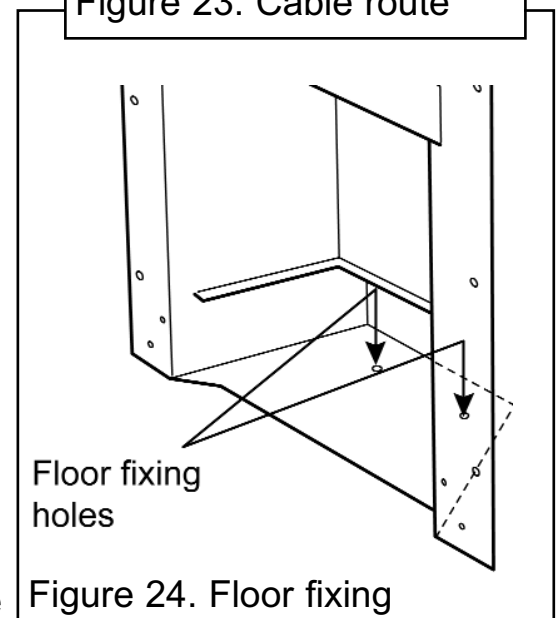

Figure 24. Floor fixing
8. Drill a hole into the fireplace floor through each of the two holes in the base of the convection box using a suitably sized masonry drill bit for the wall plugs supplied (See figure 24).